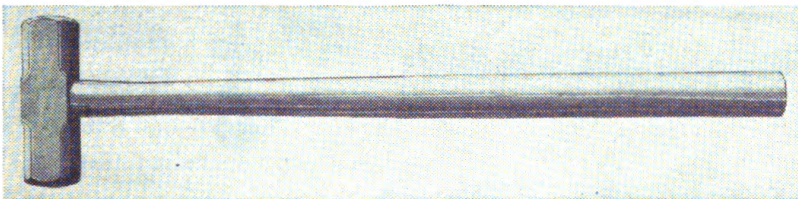

FIGURE 3.—Sledge.
(3) *Sledges*.—Sledges (fig. 3) are hammers weighing from 4 to 20 pounds and having handles from 30 to 36 inches long. They should be used only on work requiring an exceptionally heavy blow.